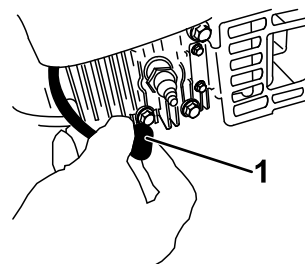

Figure 31
- Disconnect the spark-plug wire from the spark plug (Figure 31).